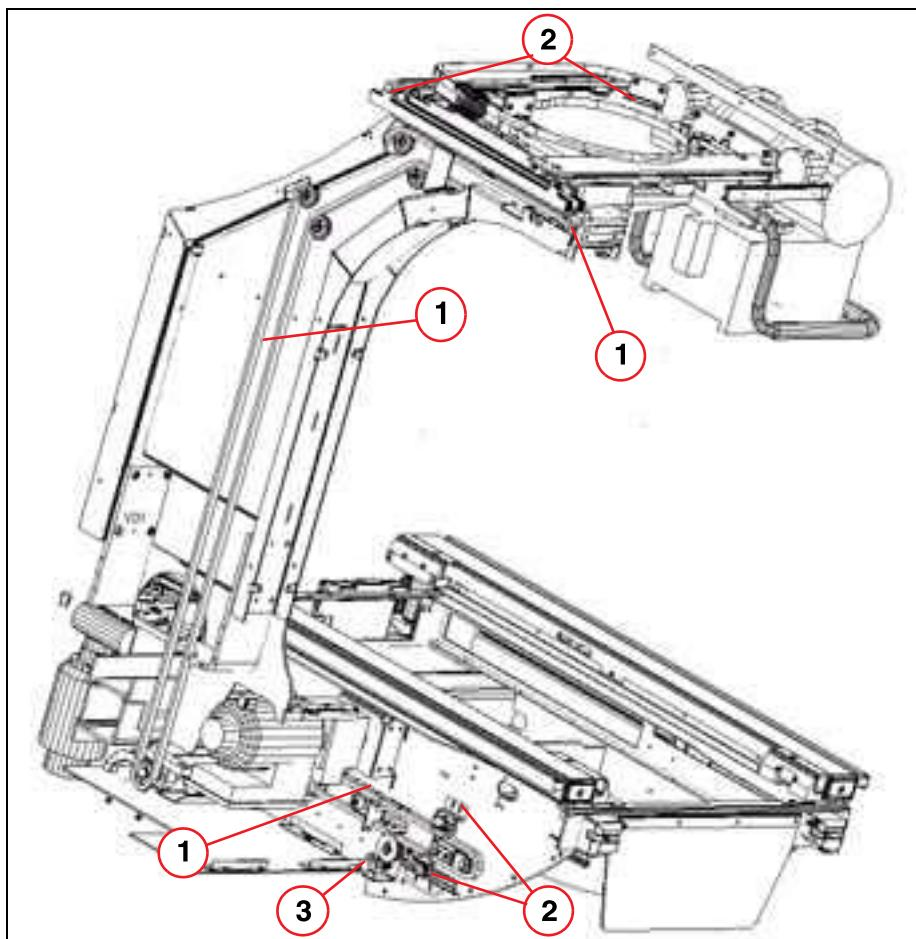

Fig. 5: System longitudinal drive
- Clean all accessible locations of the chains (1/Fig. 5 / p. 22) and grease them lightly with KL 300.
- Clean all accessible locations of the pinions (Fig. 5 / p. 22) and grease them lightly with PD 2. Check the mechanical play of the potentiometers.
- **Required:** minimal play; the potentiometers must engage properly (3/Fig. 5 / p. 22).
- Clean all accessible locations of the chains (2/Fig. 5 / p. 22) and grease them lightly with KL 300.
- Check all limit switches (2/Fig. 5 / p. 22).